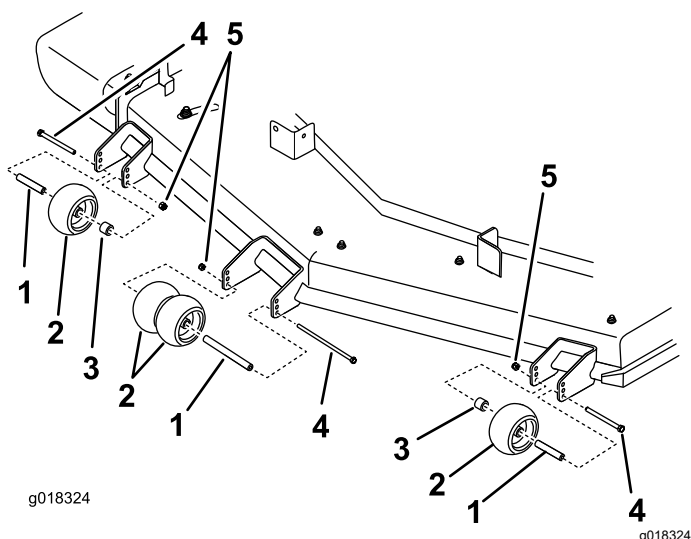

Figure 23
4. Ensure that the spacers and bushings are installed (Figure 23).